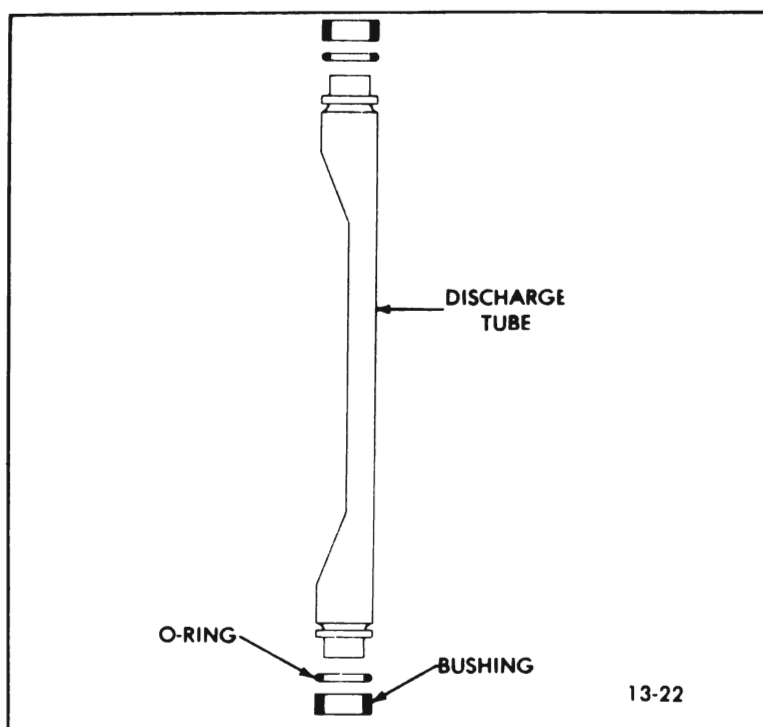

Figure 13-67 Service Replacement Discharge Tube
5. Obtain new service replacement discharge tube and assemble into front cylinder (see Figure 13-67).